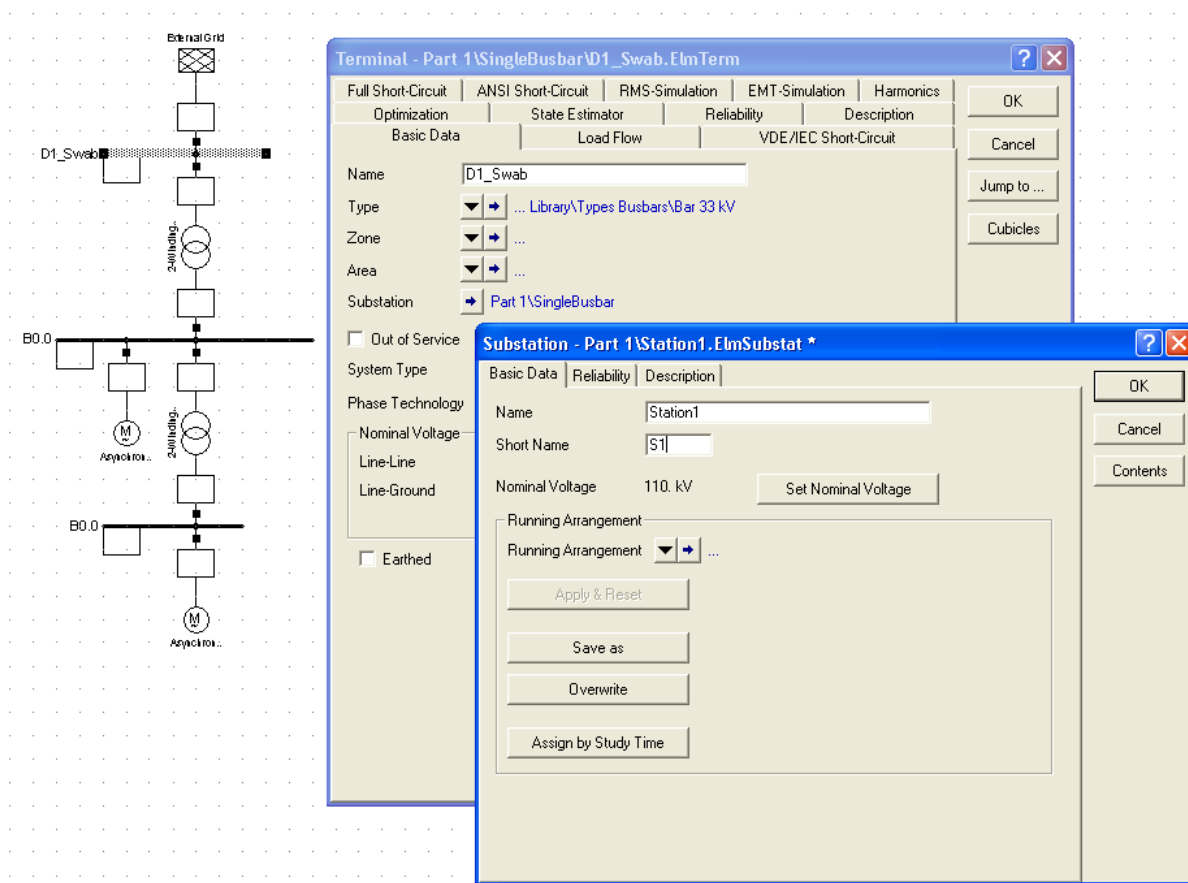

Fig. D.9: Editing the Terminal and Substation
- ▶ The dialogue window of the substations appears (figure D.9). Change the name of the substation to "Station 1".